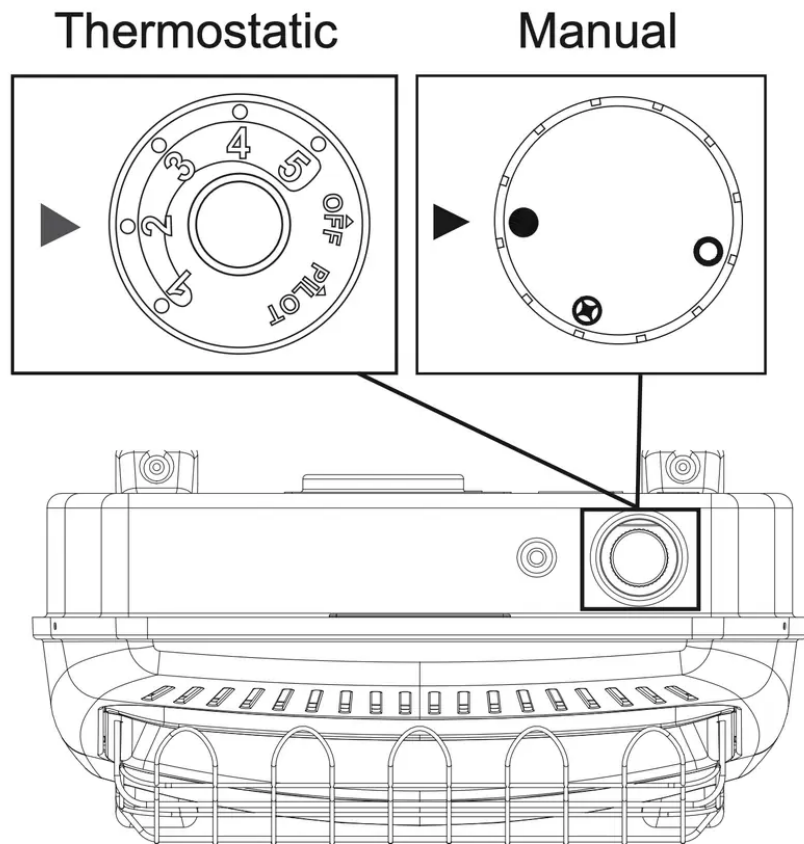

Fig. 25 - Control Knob Position
The thermostat used on this heater senses the room temperature. At times the room may exceed the set temperature. If so, the burner will shut off. The burner will cycle back on when room temperature drops below the set temperature. The control knob can be set to any comfort level between "HIGH" (5) and "LOW"(1) (See Fig. 25).
"(See Fig. 25).